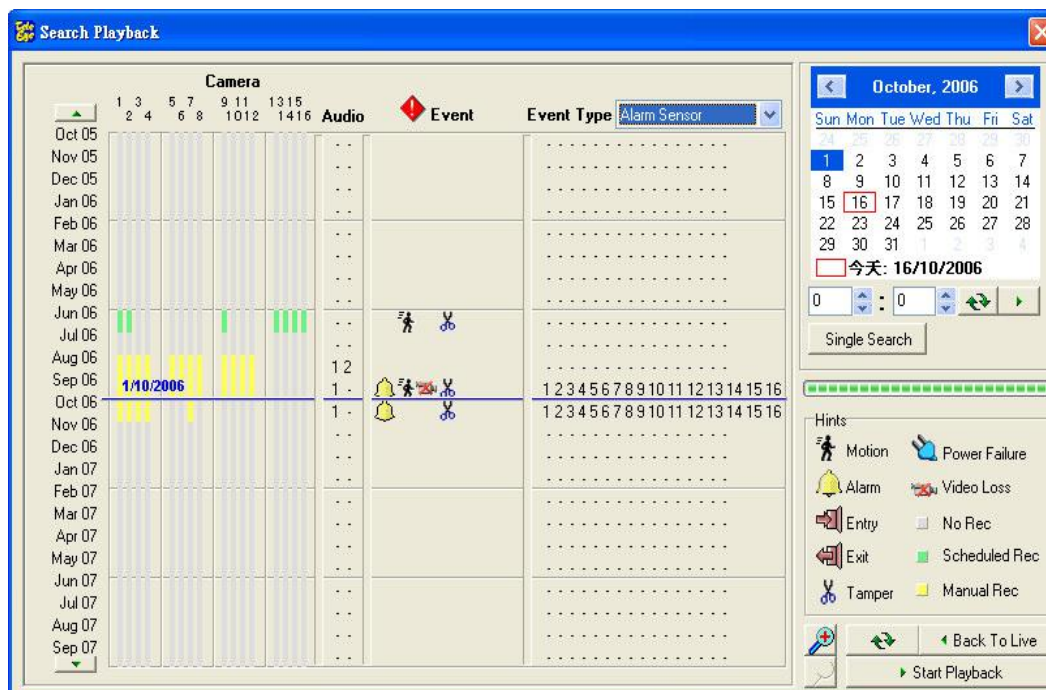

Fig 7.2b
Step 2 : {Search Playback} panel pop up as shown on. User can find out event occur at which time interval and select the record video to watch as shown on **Fig 7.2b**. There are three event type: Alarm Sensor, Motion Detection and Video Loss.